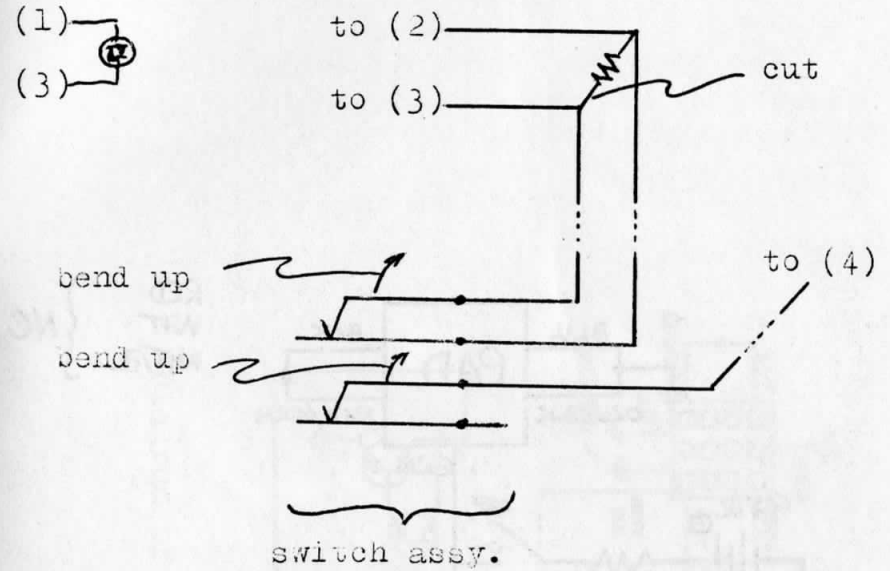

Fig. 5
---On the 82 series, four modifications are necessary. Referring to figure 5, (which shows the back of the pad with the little plastic cover removed),